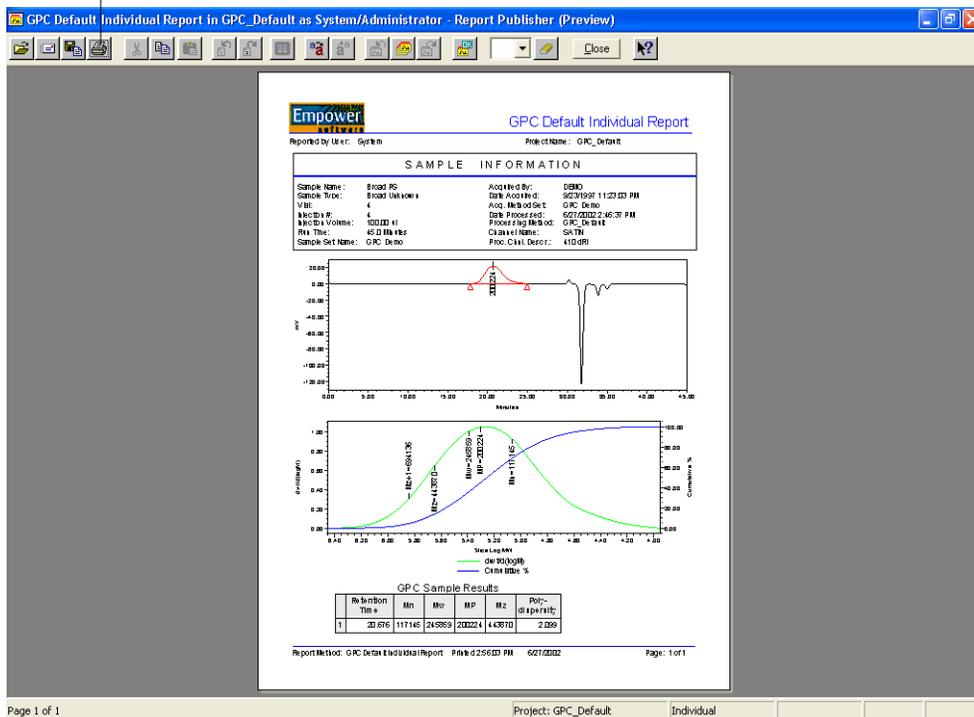

Figure 4-8 Result Shown in GPC Default
5. Click **OK**. Report Publisher appears with a report for the Broad PS result based on the GPC Default report method (Figure 4-8).